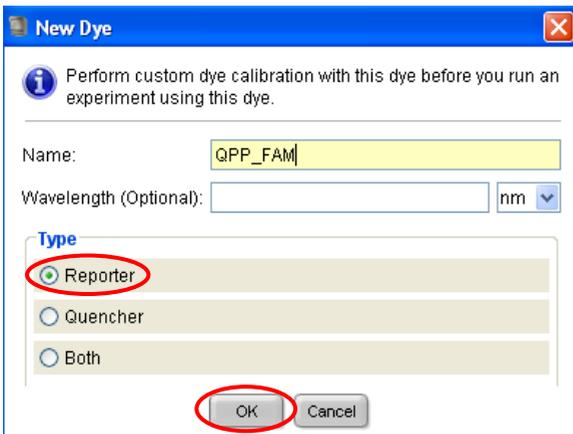

Figure 6. Dye naming.
6. Set names for the new custom dyes. To differentiate the new dyes from standard dyes, we recommend using the prefix QPP (for Quantiplex Pro). Enter **QPP_FAM** as a new dye name, select **Reporter** and click **OK** (Figure 6).